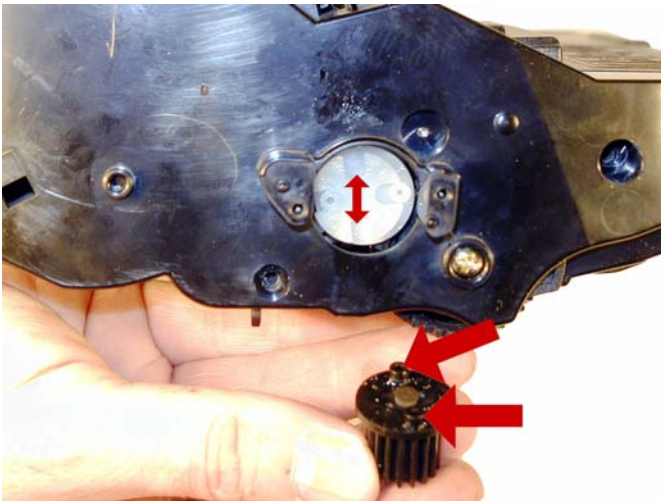

Figure 69
63) Install the drive gear, metal plate, and two screws. Make sure the tabs on the back of the black drive gear fit into the slots in the white drive gear. **Figs. 69 & 70**